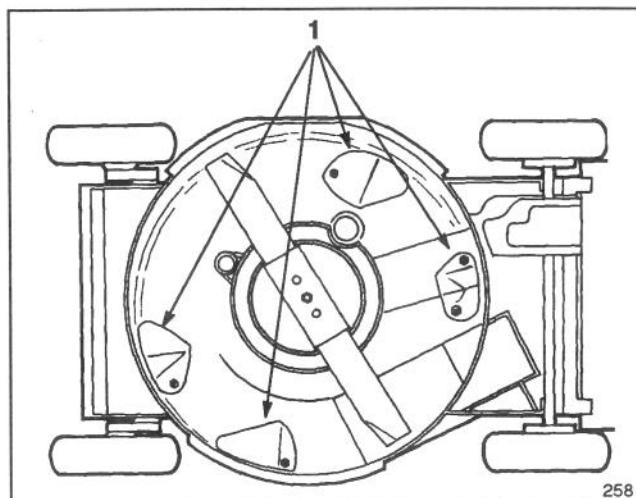

Figure 6
- B. Four special "kicker plates" positioned on the underside of the mower deck in strategic positions (Fig. 6)